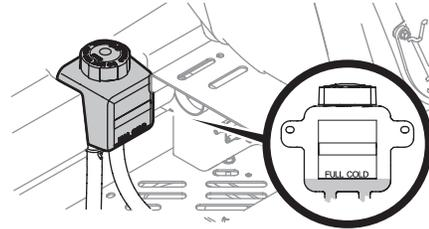

Figure 40
1. Pivot the operator's seat forward and clean the reservoir cap and the area around the cap to prevent debris from contaminating the transmission oil (Figure 40).
2. Turn the reservoir cap counterclockwise to remove, then check the oil level in the reservoir. Oil should be visible at the bottom of the cup, but the oil level must NOT be above the "FULL COLD" line (Figure 40). DO NOT FILL THE RESERVOIR.